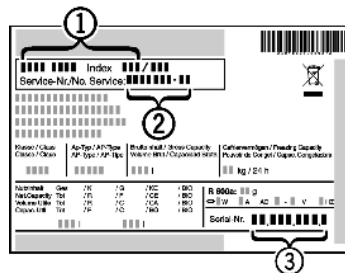

Fig. 36
- ▶ Read the appliance designation Fig. 36 (1), service No. Fig. 36 (2) and serial No. Fig. 36 (3) off the type plate located inside the appliance on the left-hand side.
- ▶ Notify the customer service, specifying the fault, appliance designation Fig. 36 (1), service No. Fig. 36 (2) and serial No. Fig. 36 (3).